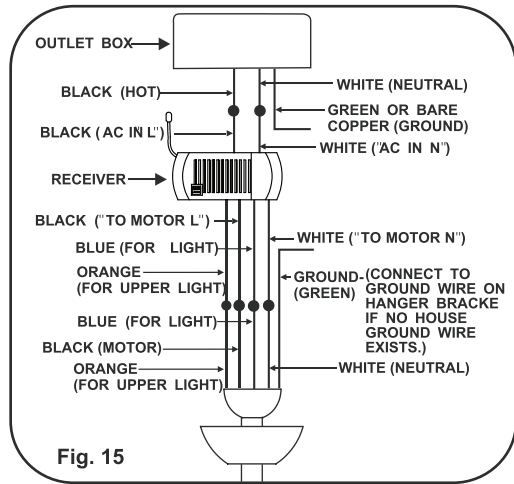

Fig. 15
**NOTE:** If your ceiling fan features an UP Light: Connect the ORANGE wire from the fan to the ORANGE wire marked "For Up Light" from the Receiver. Otherwise disregard this step and proceed to secure all wire connections with the plastic wire nuts provided. (Fig.15)
**Step 3. Receiver to House Supply Wires Electrical connections:** Connect the **WHITE** wire (Neutral) from the outlet box to the **WHITE** wire marked "AC in N" from the receiver. Connect the **BLACK** wire (Hot) from the outlet box to the **BLACK** wire marked "AC in L" from the receiver. Secure all wire connections with the plastic wire nuts provided. (Fig. 15)
**Step 4.** If your outlet box has a **GROUND** wire (Green or Bare Copper) connect this wire to the Hanger Ball and Hanger Bracket Ground wires. If your outlet box does not have a Ground Wire, then connect the Hanger Ball and Hanger Bracket Ground Wire together. Secure wire connection with the plastic wire nut provided. (Fig. 15)